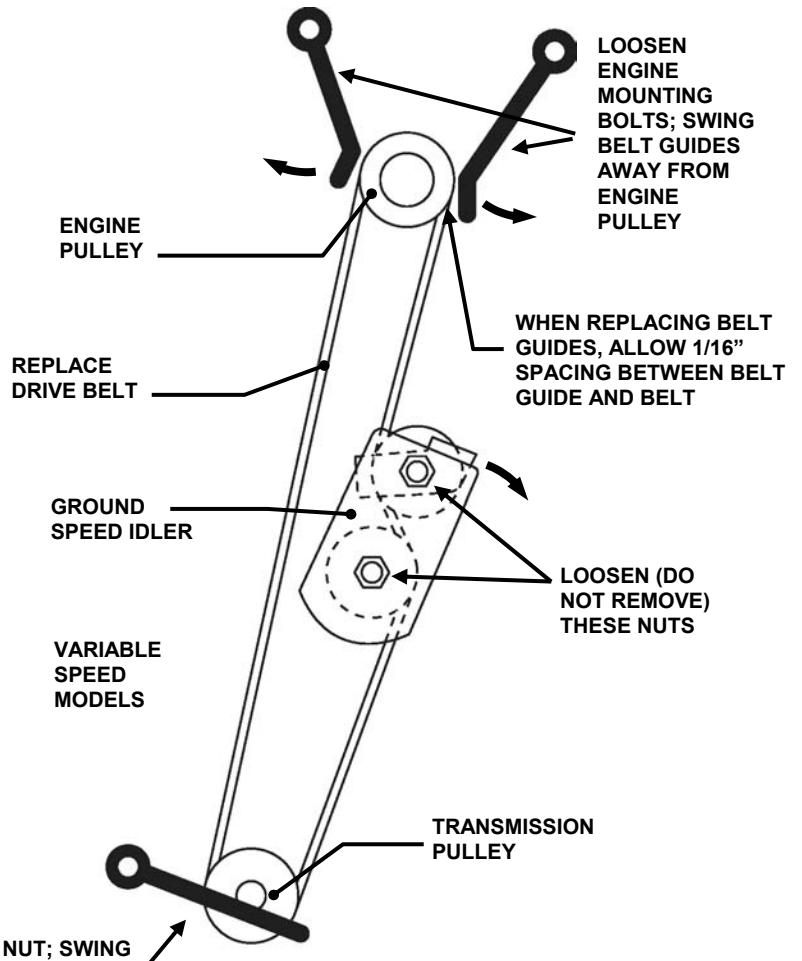

FIGURE 4.9
- a. Loosen (do not remove) engine mounting bolts securing belt guides, and swing belt guides out away from engine pulley. Also loosen nut securing transmission belt guide, and swing guide back away from transmission pulley. See Figure 4.9.
- b. Loosen (do not remove) nuts securing ground speed idler pulleys to idler plate to ease removal of belt. See Figure 4.9.
- c. Replace belt, noting belt routing in Figure 4.9.
- d. Replace belt guides, allowing approx 1/16" spacing between guides and belt. Torque engine mounting bolts to 40 ft-lbs. Retighten idler pulley bolts, making sure idler belt guide is aligned as shown in Figure 4.9.